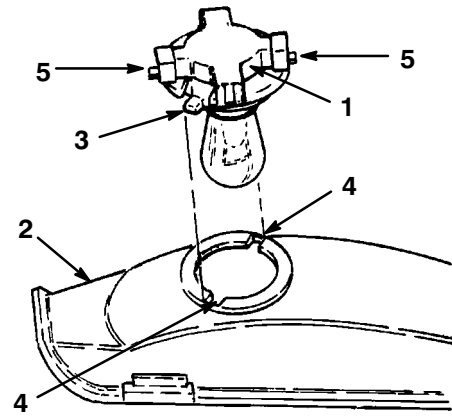

Figure 28
3. Rotate the bulb holder 1/4 turn counterclockwise and remove it from the reflector (Fig. 28).
2. The bulb holder has two tabs (Fig. 28). Align the tabs with the slots in the reflector, insert the bulb holder into the reflector, and rotate it 1/4 turn clockwise until it stops.